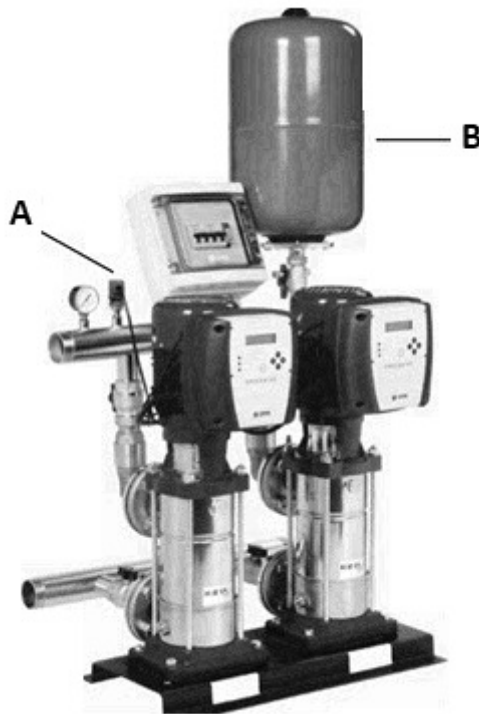

Figure 1
- 4 Figure 1 shows an integral controlled cold water booster pump. Identify the components labelled A and B. (2 marks)